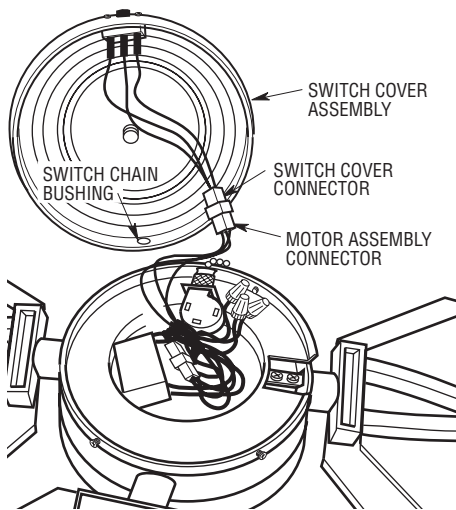

Figure 5
- 7. Securely engage the 3-pin connector from the fan motor assembly with the switch cover connector. The connectors are keyed and must be mated correctly before they can be engaged (Figure 5).